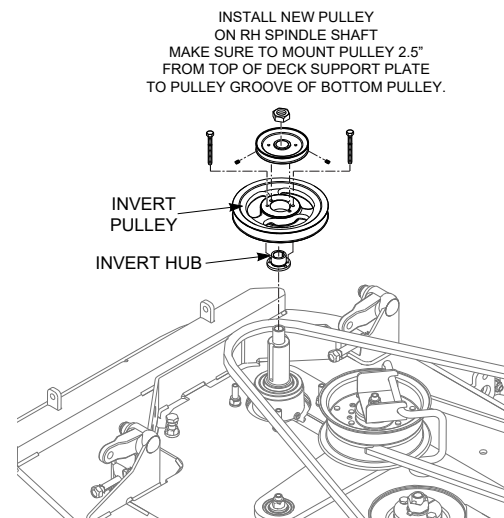

Figure 2-2. Pulley & Hub Installation
2. Remove the discharge chute from the cutter deck. See Figure 2-2.
3. Remove the right side belt cover to gain access to the spindle assembly. See Figure 2-2.
5. Install the pulley and the hub inverted, using 1/4-20 x 1.375" bolts (p/n 04001-109). See Figure 2-2. (The height alignment tools may "push out" as the pulley is tightened to the hub, this is normal)